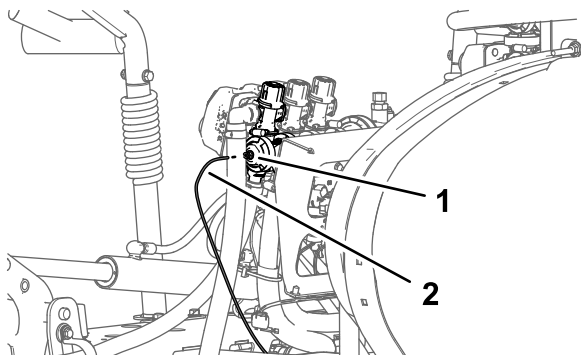

Figure 35
1. Press in the collar for the tube coupler in the end cap of the right boom-section valve (Figure 35).
2. Pull the pressure-sense tube for the dash gauge out of the tube coupler (Figure 35).